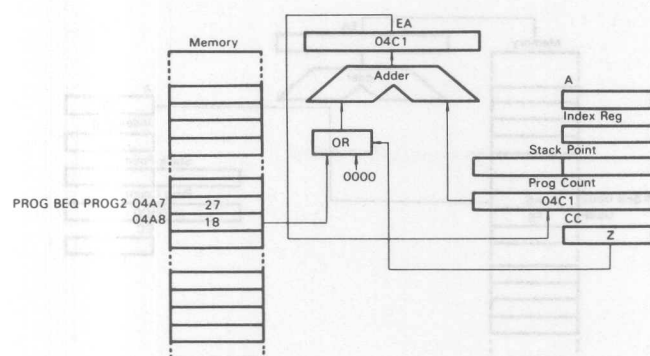

Figure 28 Example of Relative Addressing
See Fig. 28. The relative addressing mode is used with branch instructions only. When a branch occurs, the program counter is loaded with the contents of the byte following the operation code. $EA = (PC) + 2 + Rel.$, where Rel. indicates a signed 8-bit data following the operation code. If no branch occurs, Rel. = 0. When a branch occurs, the program jumps to any byte in the range +129 to -127. A branch instruction requires a length of 2 bytes.